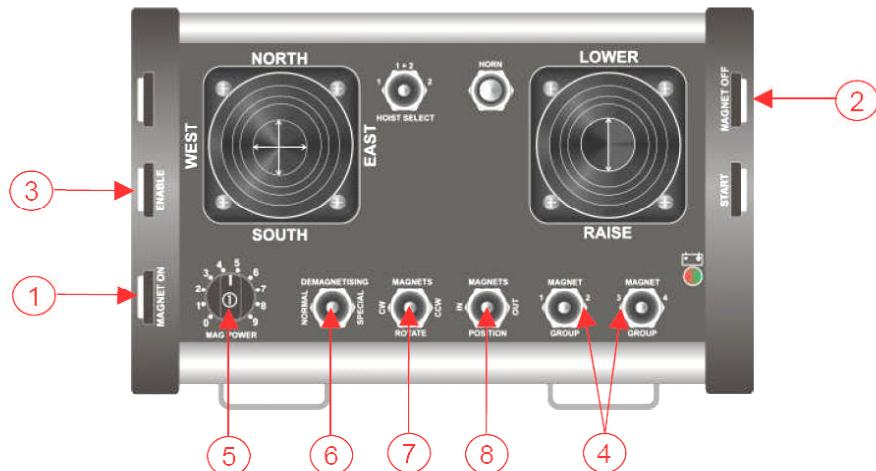

Figure 1: Typical radio remote control unit for crane and magnets
Basic operation of the magnets is reduced to a simple ON/OFF action from the operator station. To minimise the risk of accidental power off, switching off the magnets is always a two-handed operation requiring the simultaneous pressing of two separate buttons: OFF and ENABLE (see controls 2 & 3 in Figure 1:), located on opposite sides of the operator station. In multiple-magnet systems you may choose to switch on or off all or only selected magnet groups (see group buttons 4 in Figure 1:).
In the case of overhead cranes operated from the factory floor the magnet and crane controls will generally be integrated into a single radio remote control unit similar to the one shown in Figure 1:
- Pressing the ON and ENABLE buttons together (1 and 3 in Figure 1:) will cause the magnets to switch to the pre-selected partial load setting. The magnet lifting force can then be further adjusted by turning the rotary selector switch (see control 5 in Figure 1:)